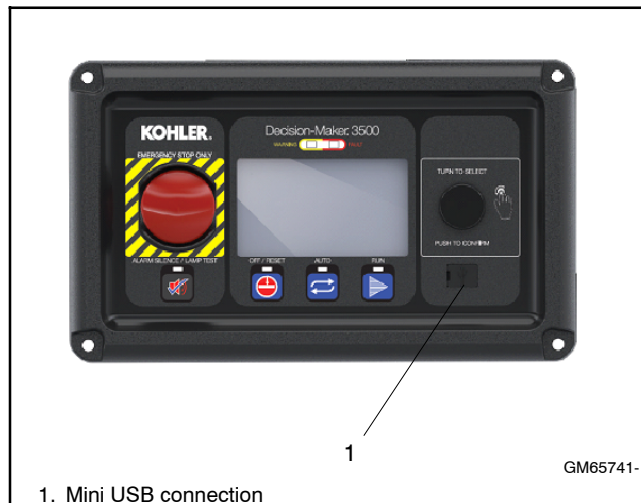

Figure 5-4 Decision-Maker® 3500 Controller
The controller service replacement kit is available to replace a non-functional controller. Use the following procedure to install the replacement controller. See Figure 5-4 for controller identification. For features and operation of the controller, see the operation manual.
- a. Connect the PC to the Decision-Maker® 3500 controller using a USB cable. See Figure 5-4 for the location of the USB connection port.